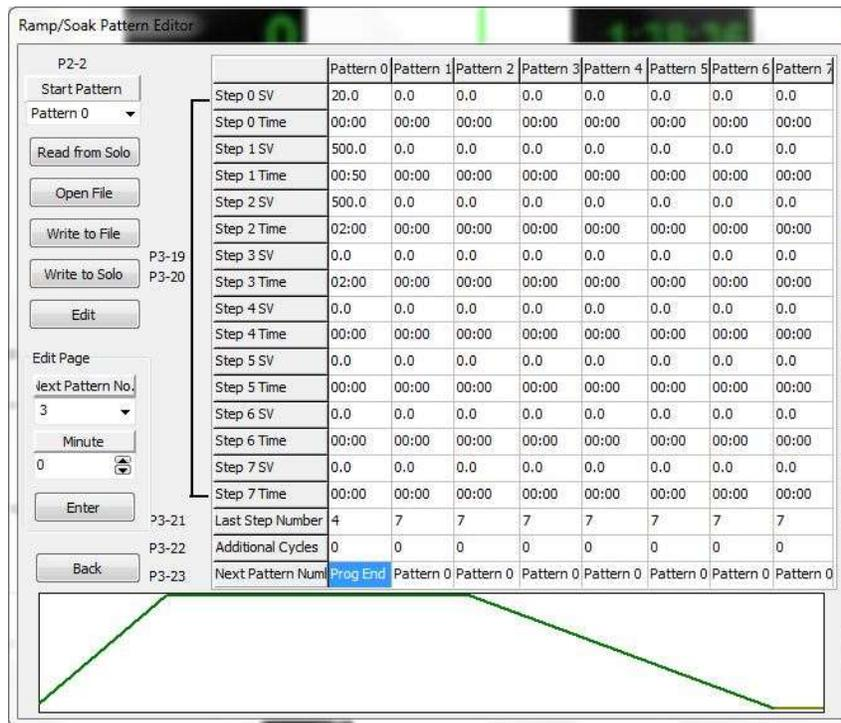

Figure 7. Ramp/Soak Pattern Editor
- i. Click on "Edit" to change the recipe. (Figure 7)